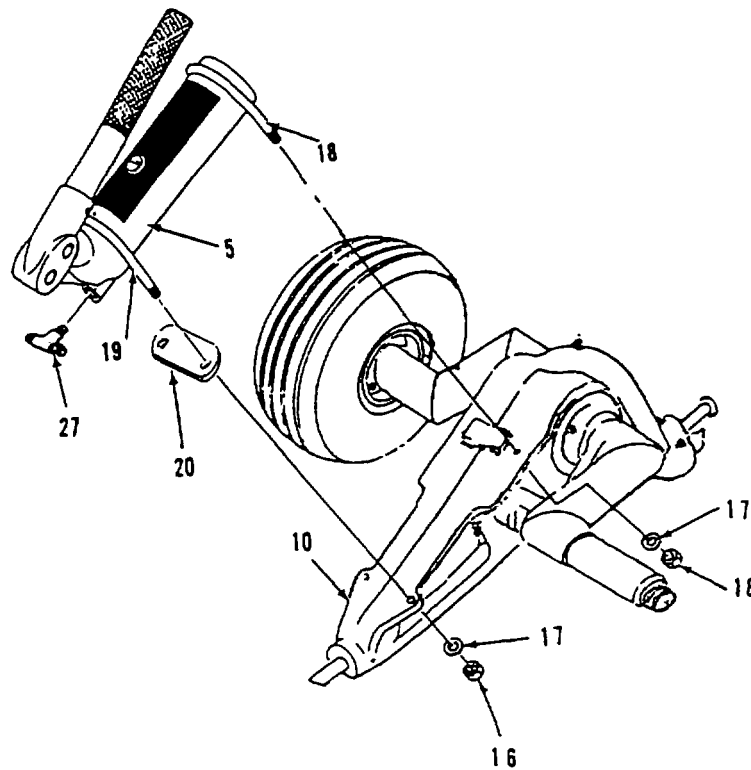

**Figure 3-5. Hydraulic Pump, Part No BU0953B**
- a. Position hydraulic pump (4) on cradle assembly (10) and align mounting holes
- b. Insert bolts (25) through holes in pump mounting plate and hydraulic fitting guard; attach with washers (17) and nuts (26).
- c. Install bolt (18) over pump (4) body and insert through holes in cradle, attach with washers (17) and nuts (16).
- d. Install tee fitting (27), wrapped with Teflon Tape (item 8, Appendix D), in reducer/metering valve in pump.
- e. Connect hose assemblies to both sides of tee fitting (27), but do not tighten completely at this time. Ensure that hoses do not rub on wheels.
2. Refer to figure 3-5 and install Hydraulic Pump (5), with part number BU0953B.
- a. Position hydraulic pump (5) on cradle assembly (10) until it is centered over four mounting holes in cradle.
- b. Install spacer (20) under pump at front, install U-bolt (19) over pump body (5) and insert through holes in spacer and cradle; attach U-bolt with washers (17) and nuts (16).
- c. Install bolt (18) over pump body (5) and insert through holes in cradle; install washers (17) and nuts (16).
Refer to figure 3-5 or 3-6 and perform fill and bleed procedure of hydraulic system as follows: